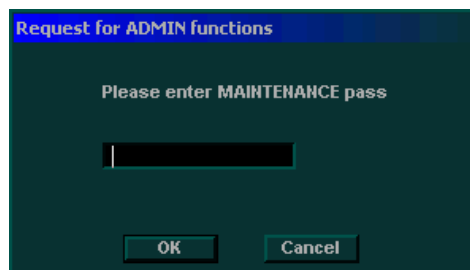

Figure 3-37 Password Request Dialog Box
- 4) Trackball to the **SERVICE** button at the bottom of the **Views** tab, and press **Select**. The password request dialog box (shown in Figure 3-37 on page 3-55) is displayed.